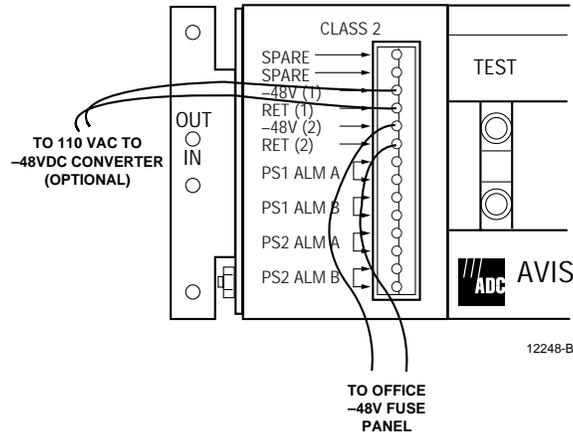

Figure 14. Office Power Connection
7. Attach power wires, -48V and return. A second set of terminals (-48V (2) and RET (2)) is provided if a backup power source is desired. See Figure 14.